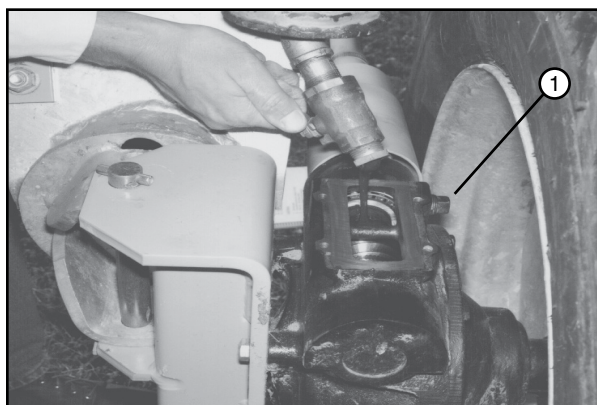

Figure 42-3 1. Check Plug
- Fill gearbox to the top of worm gear shaft or remove the check plug and fill until the oil begins to flow out of the check plug hole. See figure 42-3.